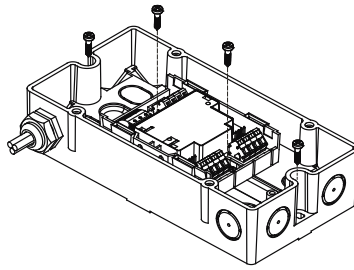

Fig. 3
- Installation outside a switching cabinet or a control unit: use FDCH221 housing (Fig. 3) .
3. Use two screws (M 4) to fit the housing on a plane surface (Fig. 3). Distance between holes:  $182.0 \pm 1.0$ mm.
2. Fix module with two screws in the housing (Fig. 3).